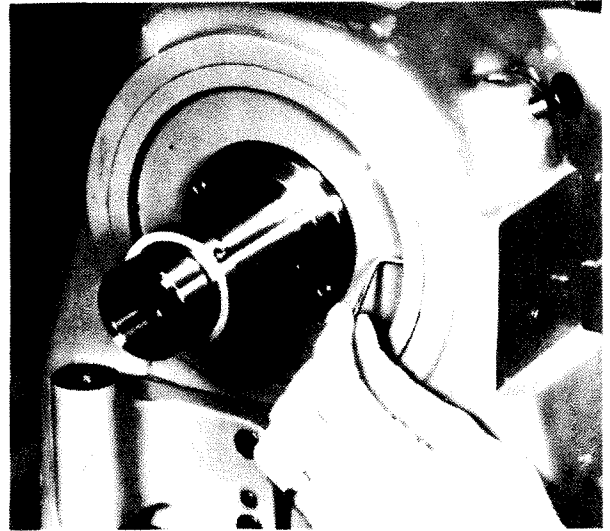

Figure 4.11 - Headstock Cover Removal
22. Remove the headstock cover by loosening two set screws, as shown in Figure 4.11 .
13. Install headstock cover and tighten two set screws, as shown in Figure 4.11 .